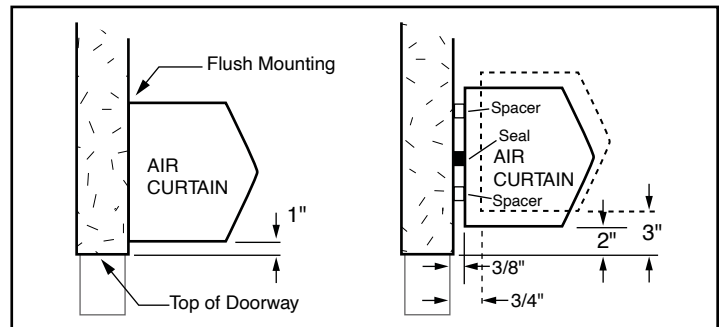

Figure 3
- B. For optimum performance, the bottom of the air curtain (discharge nozzle) should be no more than 1" above the top of the door opening with the air curtain(s) mounted flush to the wall. If the air curtain must be mounted higher, it must be spaced out from the wall 3/8" for every inch the air curtain is above the door opening. **See Figure 3.** For optimum protection, any void between the air curtain and the wall should be sealed along the full length of the air curtain.